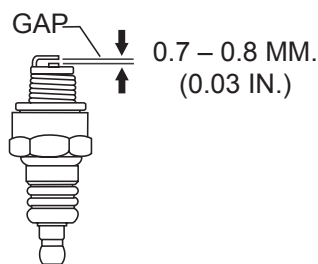

Figure 20. Spark Plug Gap Adjustment
5. Measure the spark plug electrode gap (Figure 20) with a wire-type feeler gauge. If needed, adjust the gap to 0.7–0.8 mm (0.03 in.) by carefully bending the side electrode.